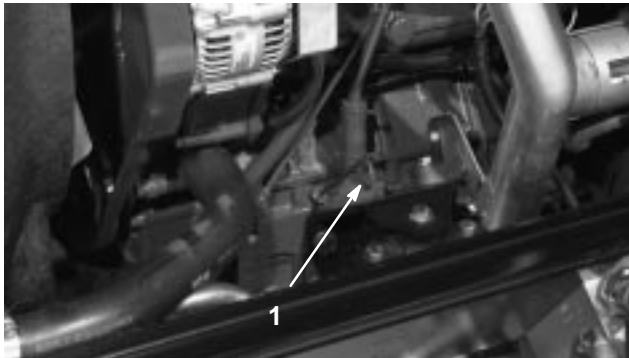

Figure 4
3. Remove the dipstick, wipe it clean, install the dipstick into the tube, and pull it out again. The oil level should be up to the FULL mark (Fig. 4).